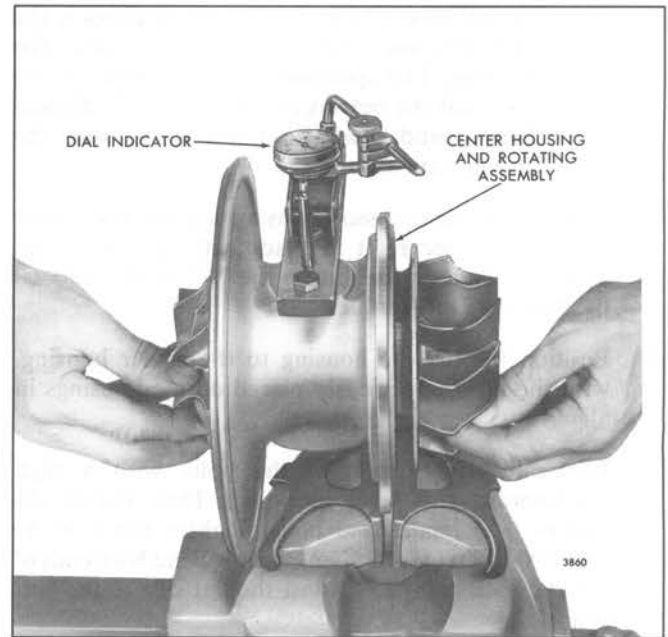

Fig. 16 – Checking Shaft Radial Movement with Tool J 21224
- a. Clamp the flange of the center housing in a bench vise equipped with soft jaws (Fig. 16), with the oil outlet opening in the center housing facing up.
- d. Raise the rotating assembly up by hand, as shown in Fig. 16, and note the indicator reading. Then push the rotating assembly down by hand and note the indicator reading.